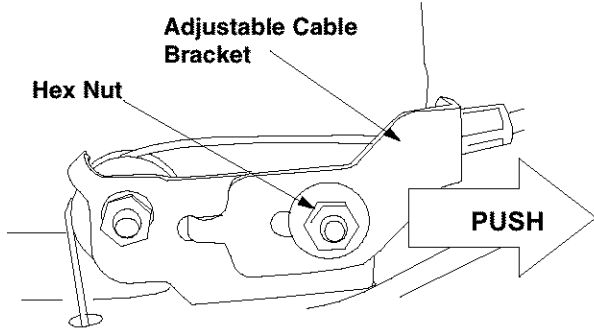

Figure 14
Periodic adjustment of the three-speed shift cable may be necessary due to normal wear on the cable. Adjustment is needed if all three speeds do not work. The adjustable cable bracket is located on the left side of the mower beside the engine. See Figure 14.
- Loosen hex nut which secures the adjustable cable bracket. See Figure 14.